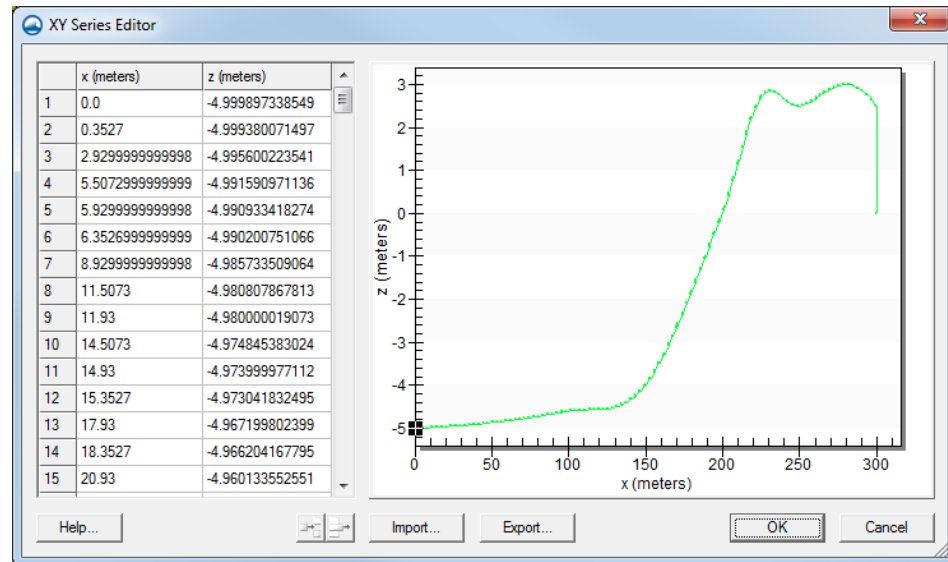

Figure 13 The XYZ Series Editor dialog showing information from one transect
- Using the **Select Feature Arc** tool, right-click on one of the transect arcs and select **Attributes...** to bring up the *XY Series Editor* dialog (Figure 13).